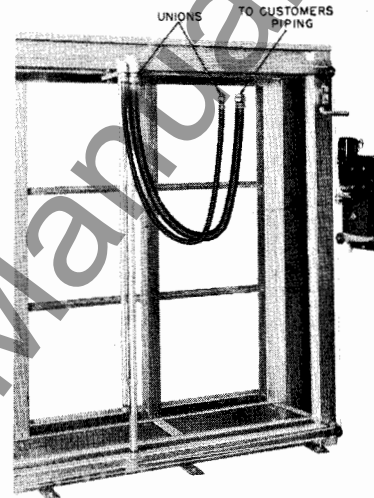

Fig. 19 --- Installation of Hoses
**HOSES.** One inch (1") water hose and 1/2" oil resistant DUSTIK hose are furnished with fittings at each end. *Position the header at the center of the cell bank before connecting these hoses.* If hoses and pipe are dirty, flush them out thoroughly with clean water. See that hoses are not twisted, but drape naturally when installed. See Figure 19.